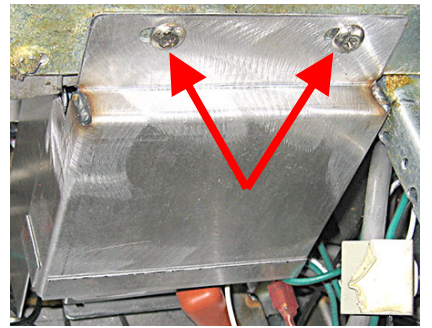

Figure 20
24. Attach new module cover (see Figure 20).